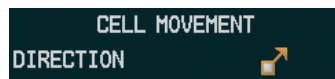

Figure 6-21 Cell Movement Legend
- 1) Select the **MAP** Softkey. This step is not necessary on the Weather Data Link (XM) Page.
- 2) Select the **NEXRAD** Softkey (**CEL MOV** Softkey on the Weather Data Link (XM) Page). For Cell Movement to be displayed on maps other than the Weather Data Link (XM) Page, Cell Movement must be turned on in the Navigation Map Setup Menu (see the procedure 'Setting up and customizing weather data for the Navigation Map Page').
To display the Cell Movement legend on the Weather Data Link (XM) Page, (Figure 6-21), select the **LEGEND** Softkey when Cell Movement is selected for display.